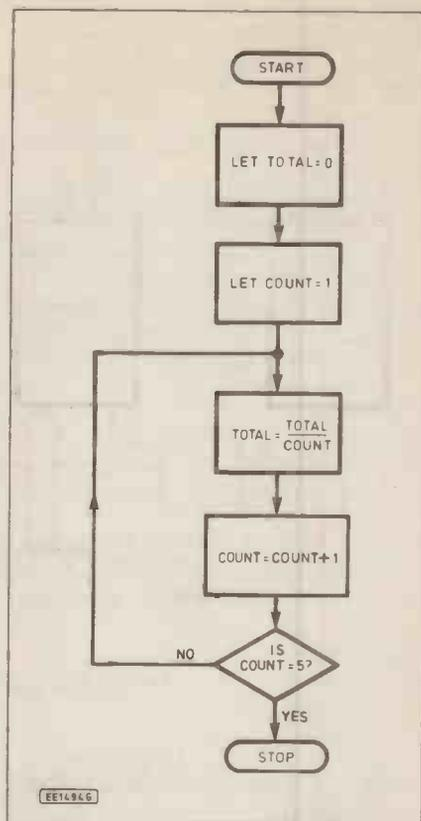

Fig. 9.9. See question 27.
27. (6.2.3) Which one of the following gives the final value of "total" produced by the flowchart shown in Fig. 9.9?